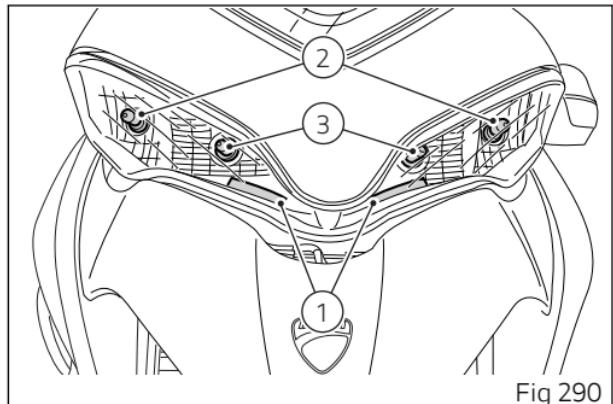

Fig 290
(Fig 290) shows the location of the LED parking lights (1), the LED low beams (2) and the high beam bulbs (3).